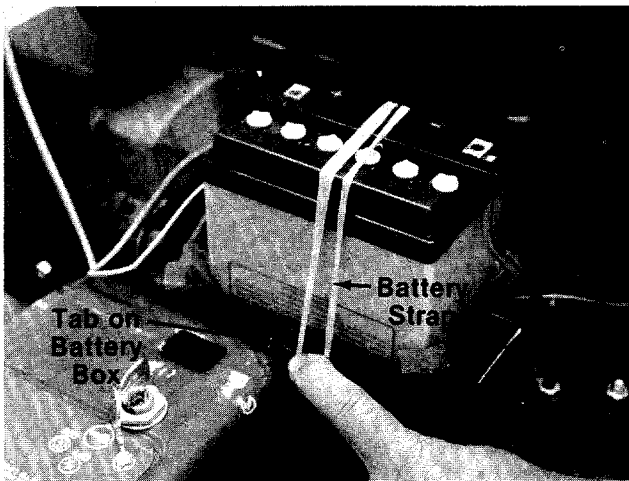

FIGURE 15.
11. Secure the battery to the battery box by stretching the battery strap (K) across the battery. Loop each end around the tap on the sides of the battery box. See figure 15.